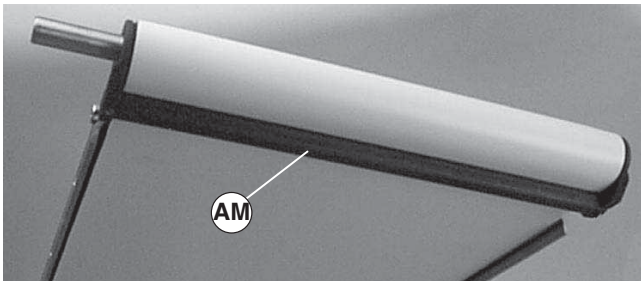

Figure 20
1. If installed, remove and retain bottom wiper(s) (Figure 20, item AM).
2. If installed, remove and retain bottom wiper(s) (Figure 20, item AM).
3. On a flat belt conveyor, install bottom wiper(s) (Figure 20, item AM). Center set screws in frame and tighten to 33 in-lb (3.7 Nm).
5. If removed, install bottom wiper(s) (Figure 20, item W). Center set screws in frame and tighten to 33 in-lb (3.7 Nm).
- If removed, install bottom wiper(s) (Figure 20, item W). Center set screws in frame and tighten to 33 in-lb (3.7 Nm).